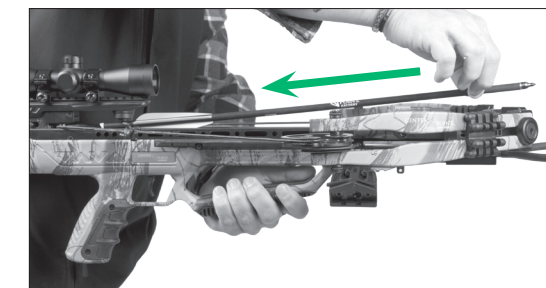

FIGURE 18
- 2d Grip the arrow near its point on the opposite end to the fletching. The crossbow may be loaded by keeping all hands and body parts out of the path of the bowstring and in the safe loading area (Fig. 18). Keep your hands, fingers and all other body parts out of the travel path of the string and cables at all times. The crossbow is designed so that the user never needs to place a body part into the path of the crossbow string. Failure to follow this warning could lead to serious injury or death.
- 2e Place the arrow/bolt so that the cocking vane (the odd colored vane), is down in the flight groove (Fig. 18)
- 2f Slide the arrow/bolt back to the trigger assembly, under the arrow/ bolt retention spring, until the arrow/bolt half moon nocks rests fully on the string. (Fig. 18)